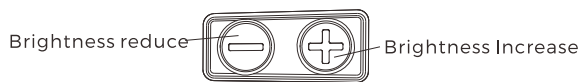

Fig 5
1. Switch on (see Fig5): Press and release either brightness button ("+" or "-") to turn on the sight.